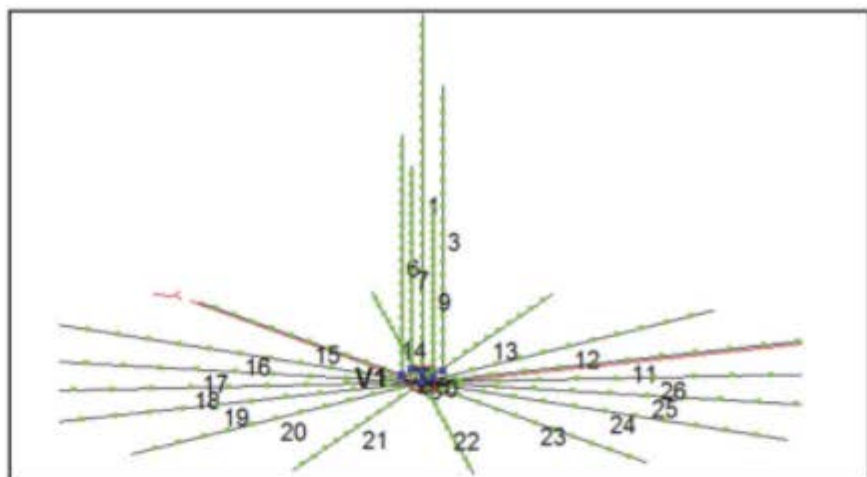

Figure 1. EZNEC Model of the Antenna Elements.
*Figure 1* shows the model for the antenna with the central 20-meter element and the four surrounding elements. The ground radials can be clearly seen under the vertical elements.